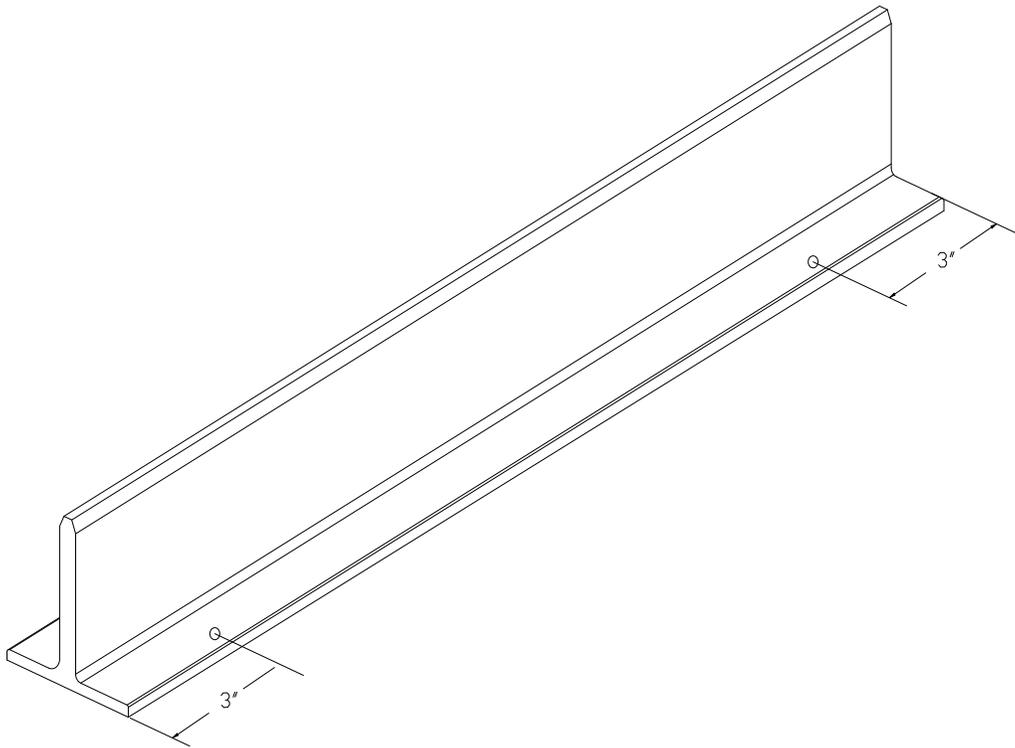

**Figure C.2**
2. Apply the Silvis Seal to the "T" by removing approximately 2 ft. of backing tape. Starting at the end blocker, apply the Seal to the recessed channel in the "T" being careful to orient the Seal in line with the "T". Lay the rest of the Seal in the recessed channel. Carefully pull the remaining backing tape from the "Seal" and using light pressure adhere it to the aluminum as shown (Figure C.2).